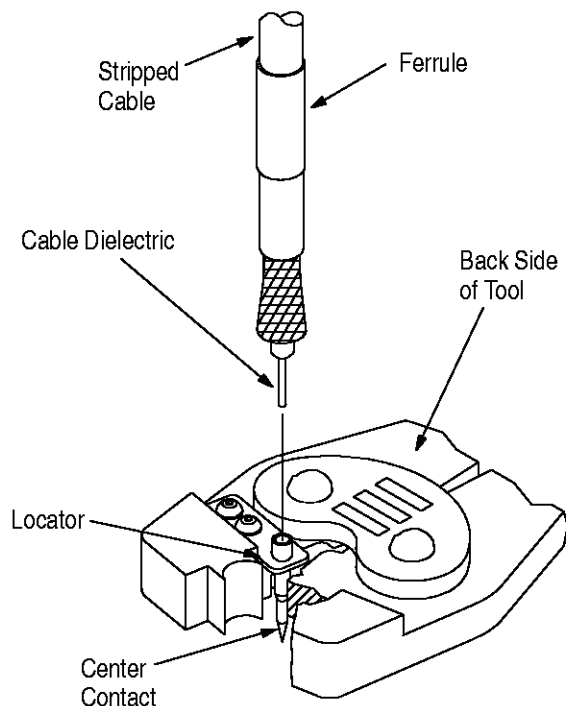

Figure 3
3. Insert center contact into tool locator until the flange on the center contact rests on the locator. See Figure 3.